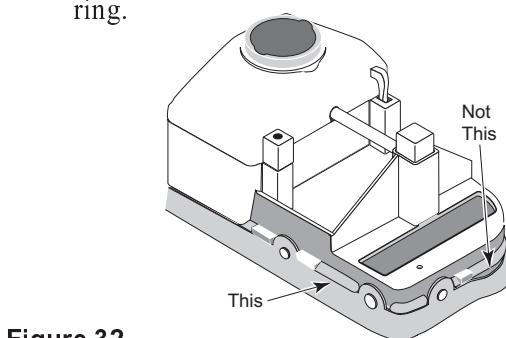

Figure 32
6. Install the rubber vacuum skirt on the cleaner with the word ‘OUTSIDE’ showing. Start at the large pin on the back of the cleaner head (see Figure 31) and work around the cleaner. Make sure the skirt is flush against the stop strips on the cleaner head (see Figure 32).